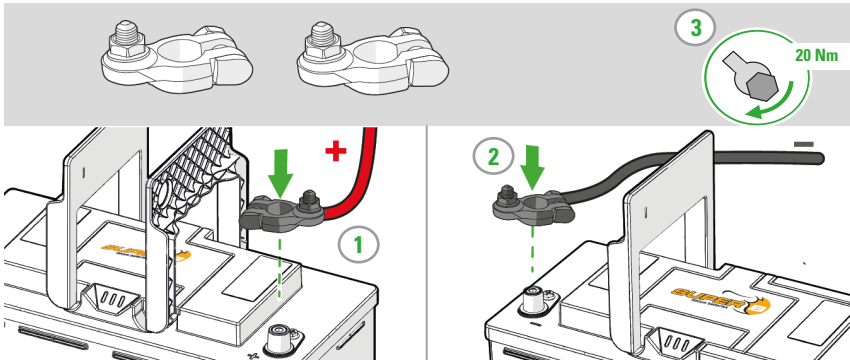

Figure 7. Connecting power cables with automotive type terminals
1. Connect the load or charger to the X2 (+) terminal of the Li-ion battery. (Figure 7)
2. Connect the load or charger to the X1 (-) terminal of the Li-ion battery. (Figure 7)